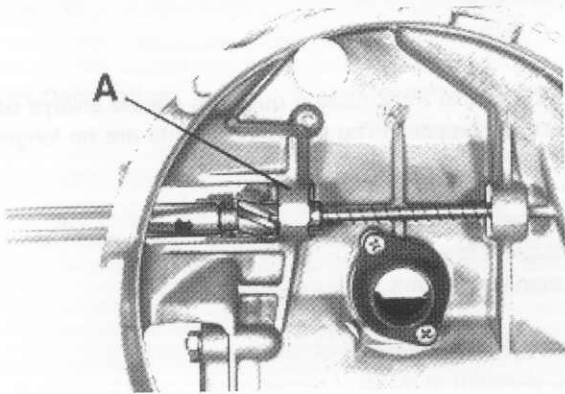

Figure 2
- Guide preassembled cutting tool into release lever shaft support bores (figure 2).
- Use slow speed (approx. 500rpm) electric drill to cut bearing support A in figure 2.